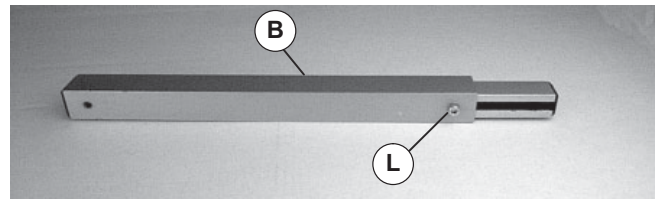

Figure 5
1. Loosen screw (Figure 5, item L) of adjustable bar (B).